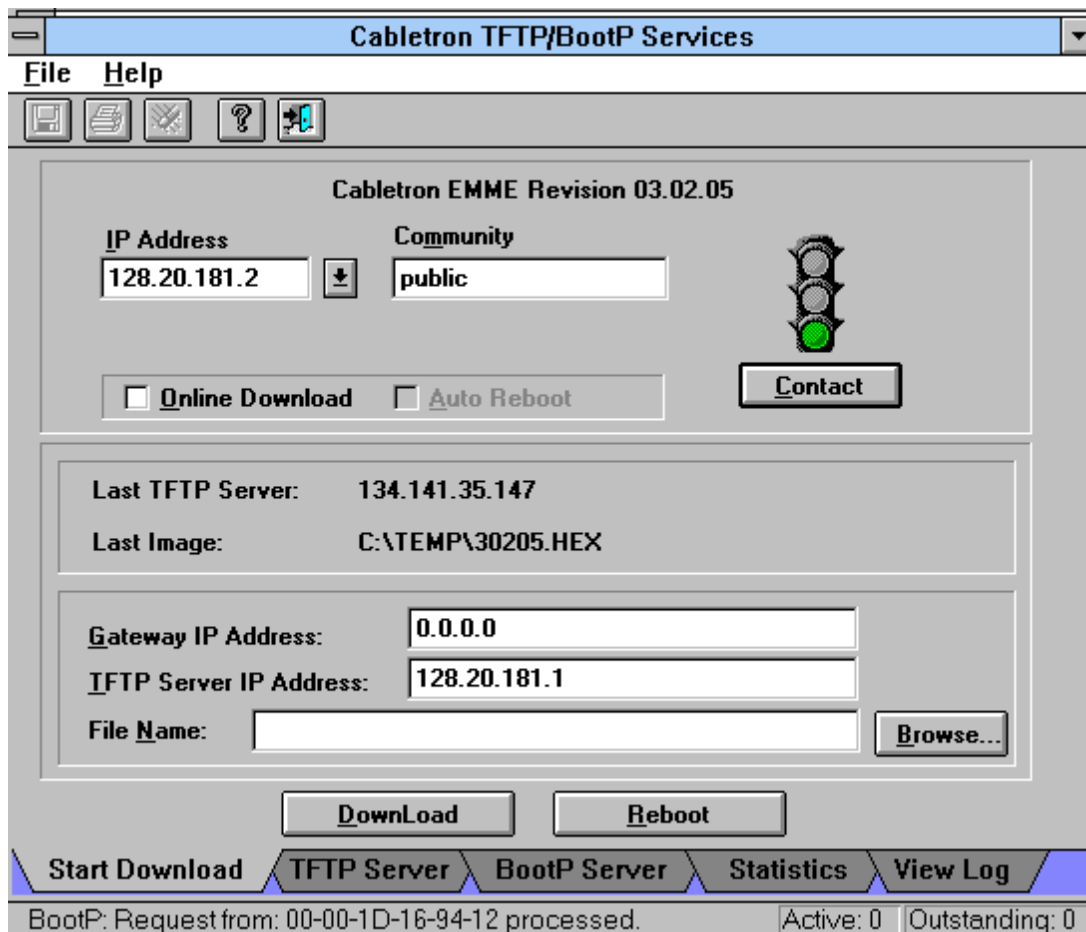

Figure 3-7. Start Download Screen
2. Bring up the TFTP/BootP application by either going to the Program group and double clicking on the TFTP-BootP Services icon, or click once on the icon in the Device list or the map and select the Utilities TFTP/BootP pulldown menu. The Start Download screen is displayed (Figure 3-7).